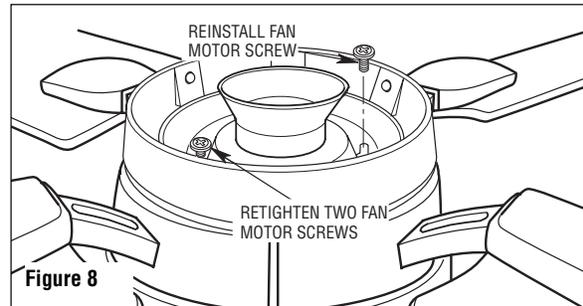

Figure 8
7. Reattached the screw (removed in Step 3) into the light kit plate assembly and securely tighten the three screws (Figure 8).